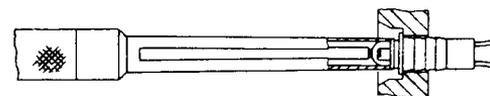

Fig. 4—Spring End of Tool Over Lamp
**3.02** To remove a lamp, push the spring end over the lamp, as shown in Fig. 4, and